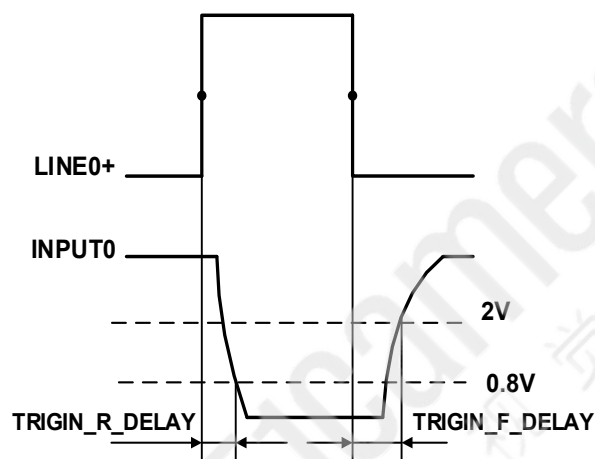

Figure 7-4 Parameter of opto-isolated input circuit (GigE)
- Rising edge delay: $< 50 \mu s$ ($0^{\circ}C \sim 45^{\circ}C$), parameter description as shown in Figure 7-4.
- Falling edge delay: $< 50 \mu s$ ($0^{\circ}C \sim 45^{\circ}C$), parameter description as shown in Figure 7-4.